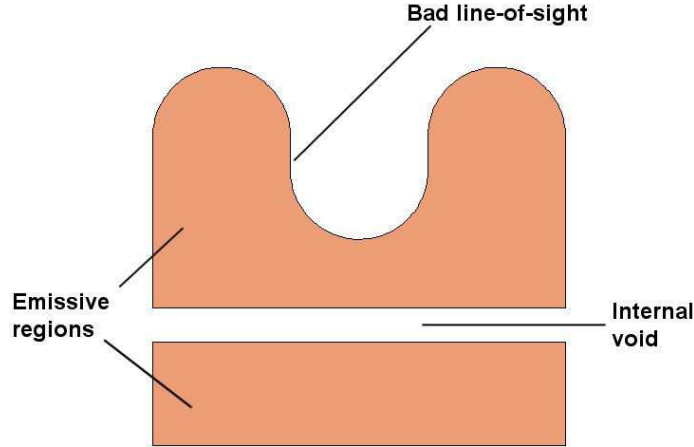

Figure 9: System that violates validity conditions for a **HeatWave** simulations with thermal radiation.
- All radiating facets have a clear line-of-sight to infinity. Figure 9 illustrates a system where the conditions are violated.